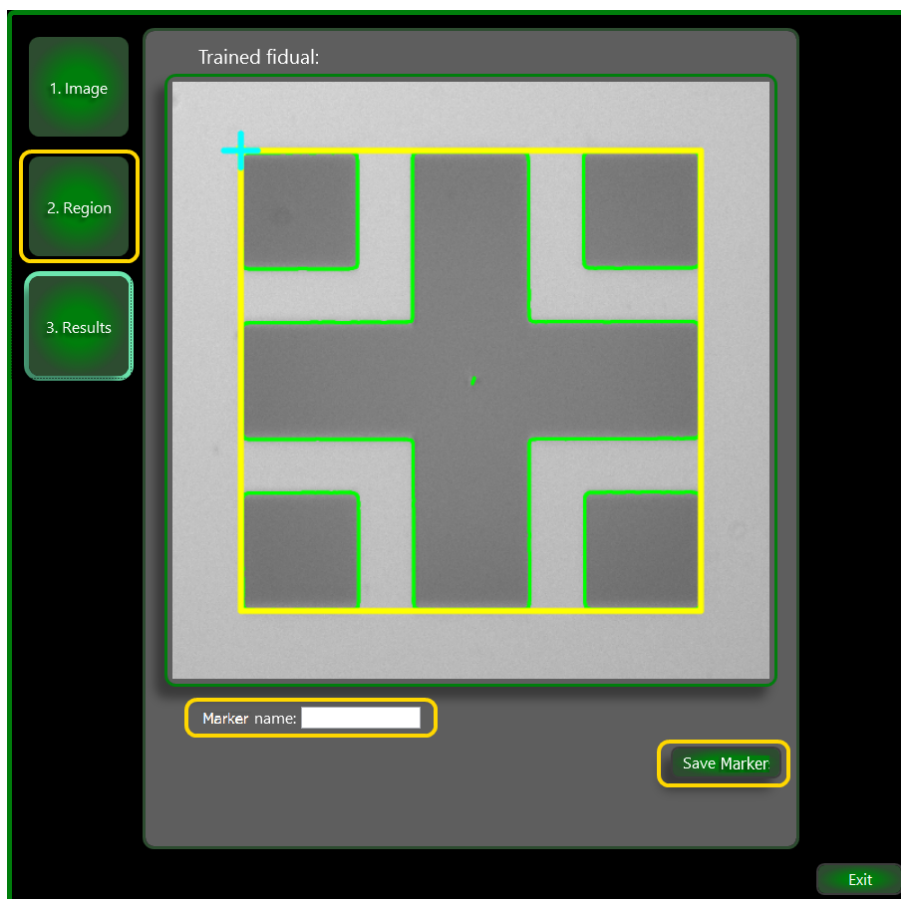

Figure 3-111 Results window
11. Click **Create Edge Model**. The **Trained marker** becomes visible, see **Figure 3-111 on the facing page**.